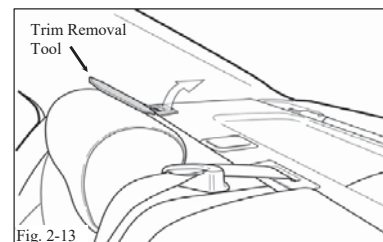

Fig. 2-13
(3) Using a trim removal tool, remove the plastic cover for the rear seatbelt on the rear parcel shelf. This will ease access to the rear grommet. (Fig. 2-13)